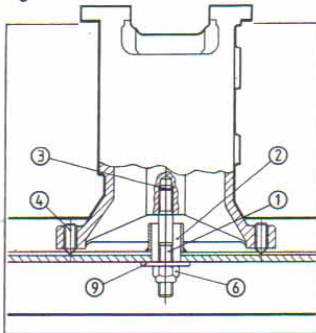
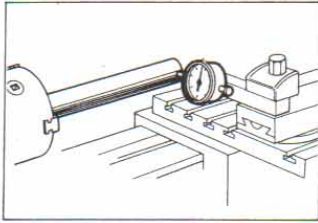

Fig. 5
Fig. 9
The machine is located by the four cone pointed levelling screws in countersinks on the chip-tray ④. The machine bed is secured to the cabinet by means of the two 12mm studs ① which pass through the two chip-tray stack pipes ② and screw into the two central threaded holes ③ under the lathe bed after the machine has been placed on the cabinet, and the washer ⑤ and self-locking nuts ⑥ fitted. (See Fig. 5).
Slacken the two 12mm nuts (C) (Figs. 5 & 6).
With the 12mm machine securing nuts ⑥ slackened (Fig. 5 and 6), grip a piece of 25mm (1") diameter precision ground bar in the chuck, with approximately 200mm (8") protruding, and set the dial indicator to read off the side of the ground bar at its' extreme end. See Fig. 9.
Adjust the levelling screws ④ (Fig. 5) so that, when the securing nuts ⑥ are finally tight, the dial indicator still reads zero.
If the ends are not the same, further adjustment of the levelling screws ④ (Fig. 5) is required.